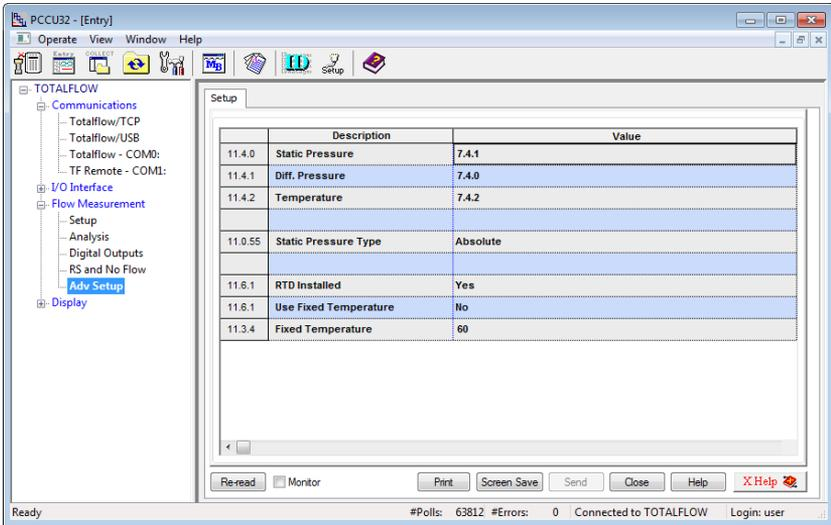

Figure 18: Measurement Adv Setup tab
1. In the navigation tree, click **Flow Measurement > Adv Setup** (Figure 18).